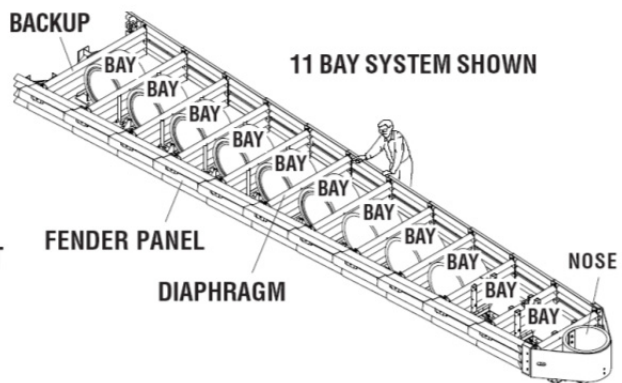

Figure 3
One Bay consists of (1) Diaphragm, (2) Fender Panels, etc. The Nose Assembly is not considered a Bay (see Figure 3).